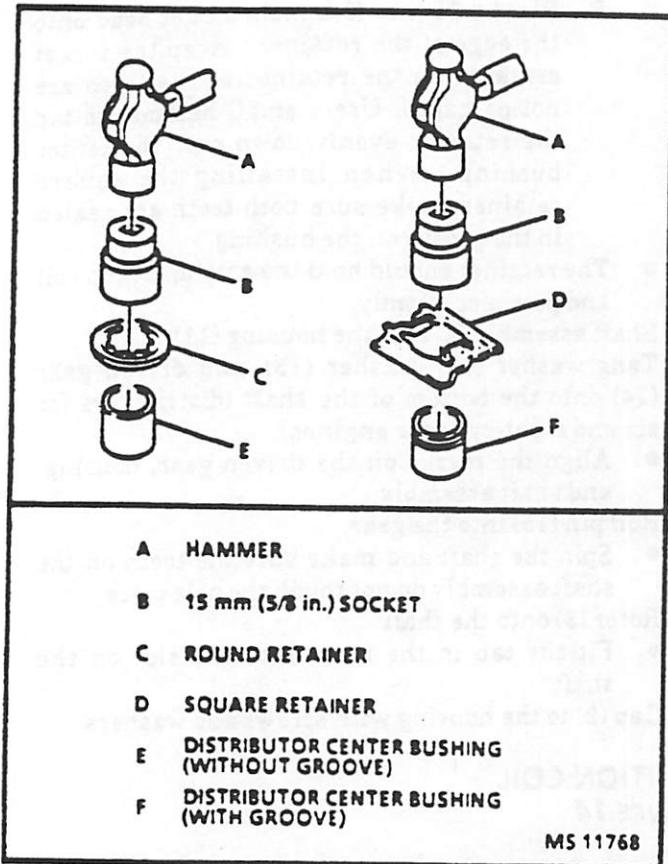

Figure 13 - Retainer to Shield Installation
- 1. Ignition module (10) to the housing (4) with two screws.
- 2. Pickup coil (7).
- 4. Shield (6) onto the coil.
- 5. Retainer (5) onto the shield.
- Use a new round retainer if the center bushing in the distributor base has no groove around the outside (Figure 13).
- 6. Shaft assembly (4) into the housing (11).
- 7. Tang washer (12), washer (13), and driven gear (14) onto the bottom of the shaft (distributors for six and eight-cylinder engines).
- 8. Roll pin (15) into the gear.
- 9. Rotor (3) onto the shaft.